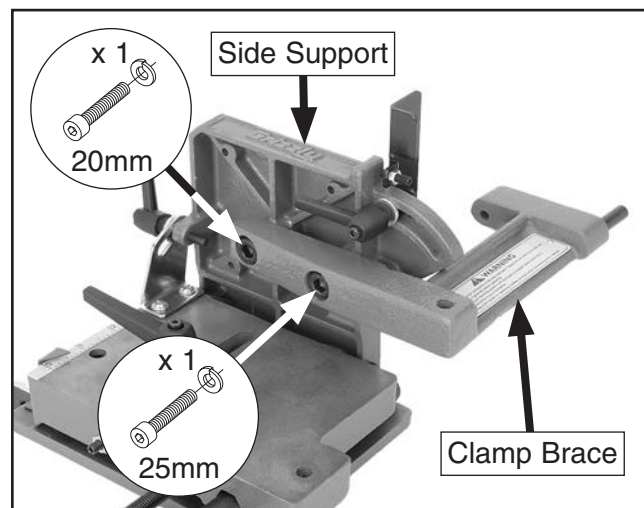

Figure 5. Clamp brace installed.
1. Attach clamp brace to back of side support using (1) M10-1.5 x 20 cap screw with 10mm lock washer, and (1) M10-1.5 x 25 cap screw with 10mm lock washer, as shown in **Figure 5**.
Note: These cap screws are different lengths and must go into the correct holes, as shown in **Figure 5**.